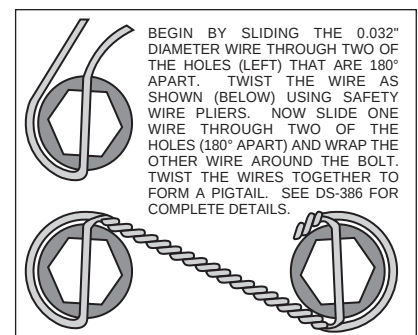

Figure 3. Safety Wire Diagram
- Apply red *Loctite*® 271 to bolt threads (2 and 4) before assembly of the caliper bracket (1) to backing plate face of spindle. Then install bolt (4) through caliper bracket (1), spindle face and the steering arm. Finger tighten the bolt (4) with lock nut (5). Install and finger tighten two bolts (2) with lock nuts (3). Torque two bolts (2) to 47 ft-lb. Torque bolt (4) to 77 ft-lb. **NOTE:** Be sure the heads of the caliper bracket (1) insert nuts are facing outward toward the wheel.
- Install five new wheel studs (6) into the hub (7). Torque to 77 ft-lb. **NOTE:** There are two five lug patterns in the hub (5 x 4.00 and 5 x 4.50). Make sure of the correct hole pattern for the correct wheel application before installing studs into hub.
- Pack the large inner bearing cone (8) with high temperature disc brake bearing grease (available from your local auto parts store) and install into the backside of the hub (7).
- Install the grease seal (9) by pressing into the backside of the hub (7).
- Attach rotor adapter (10) to rotor (11) using six bolts (12). Using an alternating sequence, apply red *Loctite*® 271 to the threads and torque bolts (12) to 25 ft-lb. For an added measure of security, the bolts may be safety wired using standard 0.032 inch diameter stainless steel safety wire as shown in Figure 3. Please refer to Wilwood's data sheet DS-386 (available at www.wilwood.com/Pdf/DataSheets/ds386.pdf) for complete safety wire installation instructions. **NOTE:** The flat side of the rotor (11) lugs face toward the rotor adapter (10) with the dished side of the rotor adapter (10) facing away from the rotor (11).